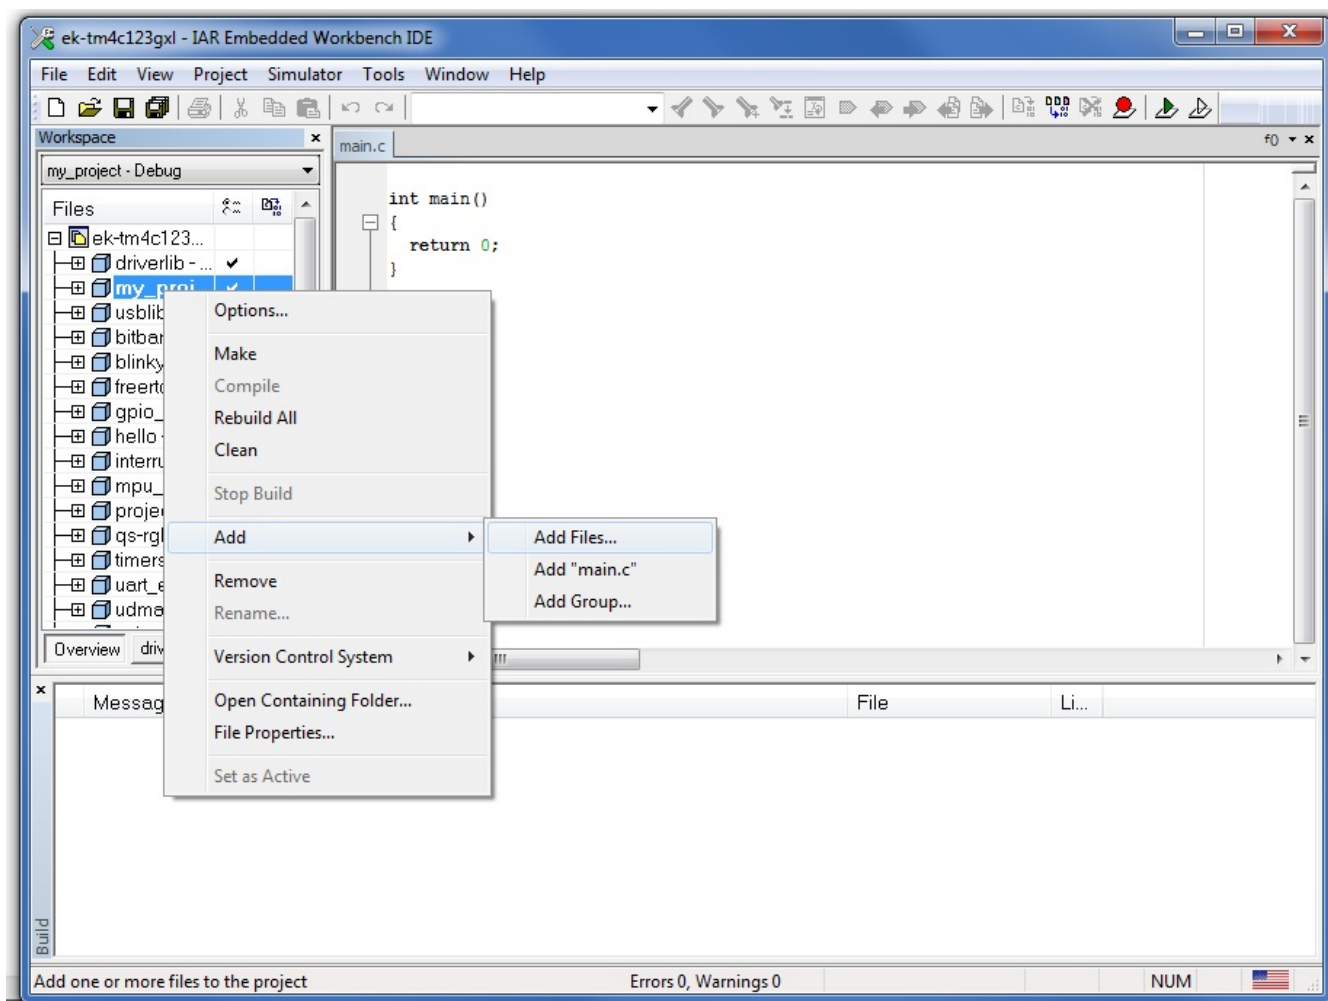

Figure 9.
3. Right-click the project and select Add → Add Files...(see Figure 9). This takes you to the project directory.